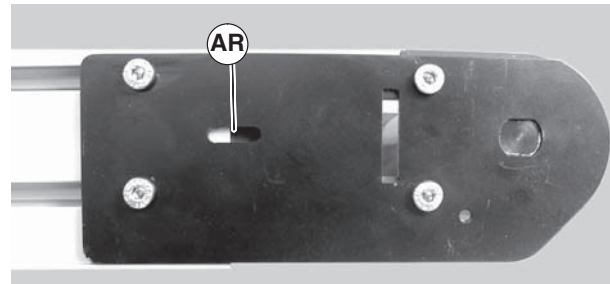

Figure 28
3. Extend head plate assembly until proper tension in the belt is achieved. If proper tensioning can not be obtained before the belt life indicator is all black (Figure 28, item AR) the belt must be replaced.